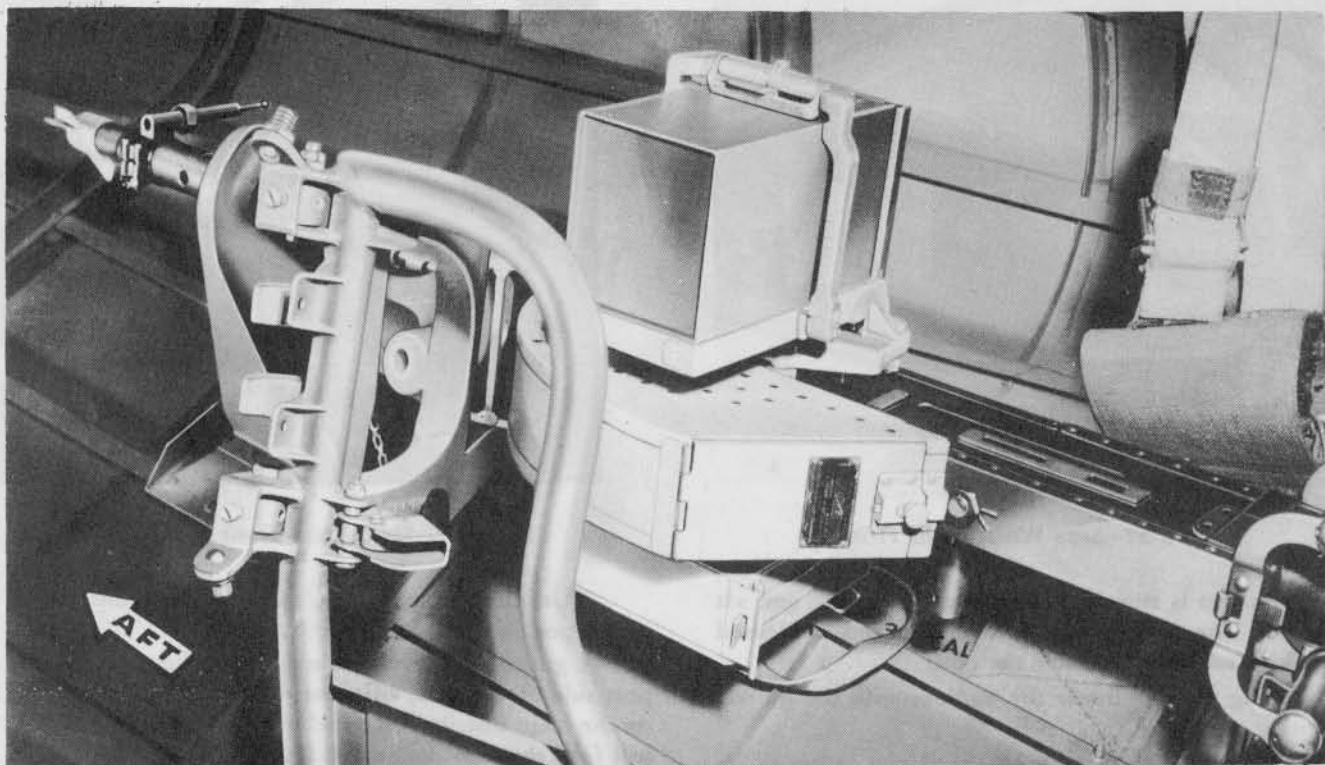

Figure 53—Tunnel Gun Stowed
c. TUNNEL GUN. (See figures 53 and 54.)—This gun was installed only in the following airplanes: 46639-46698 Incl., 46724, 63993-64015 Incl.